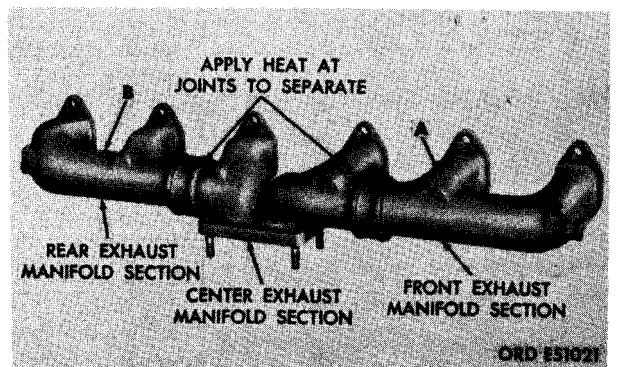

FIGURE 173. EXHAUST MANIFOLD ASSEMBLY SHOWING HEAT APPLICATION POINTS FOR SEPARATION OF SECTIONS.
- (8) Figure 173. (A) Apply heat to joint of front exhaust manifold section and separate the front section from the center section. (B) Remove the rear exhaust manifold section from the center section in the same manner.